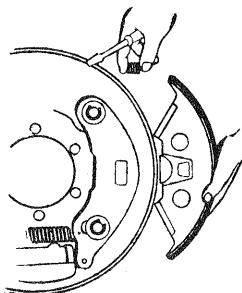

Figure 4
Refer to Figure 4. All that is necessary to remove shoe for service is a screwdriver to remove the shoe retaining spring (248).